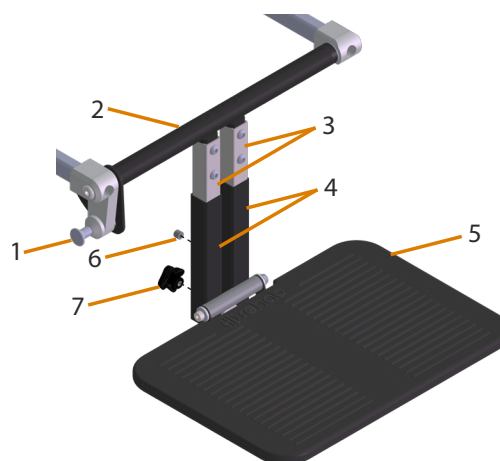

Figure 23. Centre leg rest components
Components, see Figure 23:
- Push in the snap lock (6 in Figure 23) and move the footrest tubes to the desired position.
- Turn the knob (7 in Figure 23) until the footrest reaches the desired position.